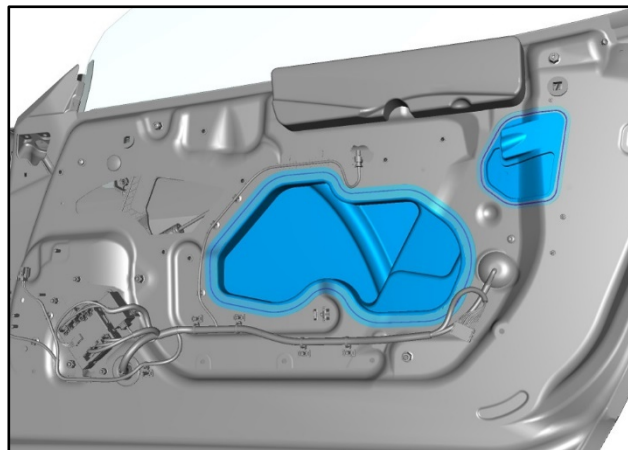

Figure 3
12. Release the water shedder panel from the adhesive that attaches it to the door panel (refer to Figure 3).